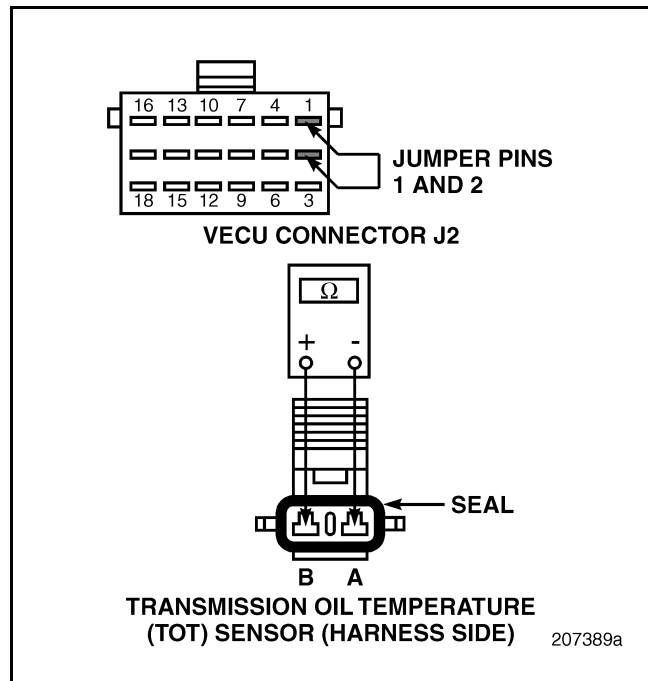

Figure 229
4. Check for continuity between pins A and B of the Transmission Oil Temperature Sensor harness connector (see Figure 229).